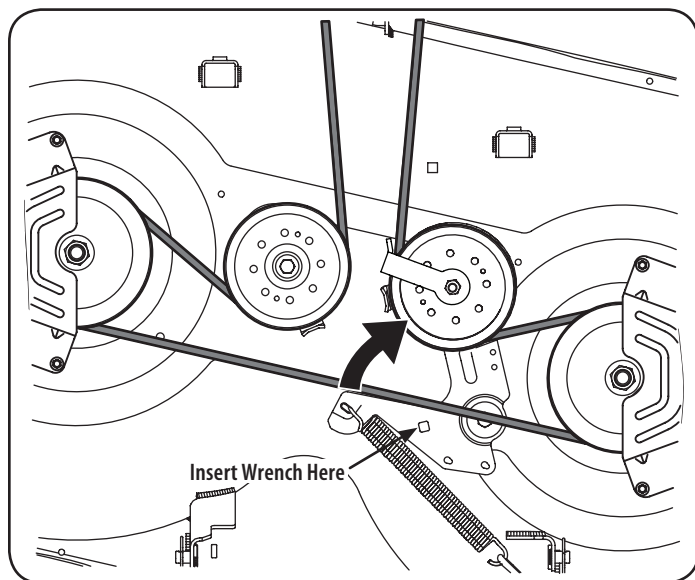

Figure 20
3. Working on the right side of the tractor, insert a  $\frac{3}{8}$ " drive ratchet wrench, set to tighten, into square hole found on the idler bracket. See Figure 20.
4. Use the wrench to pivot the deck drive pulley forward. See Figure 20.